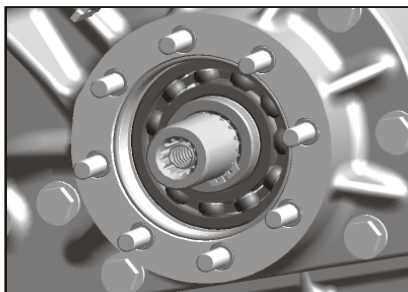

Fig. 10
- e. Install P.T.O. shaft into transmission counter shaft as shown in **Fig 10**.